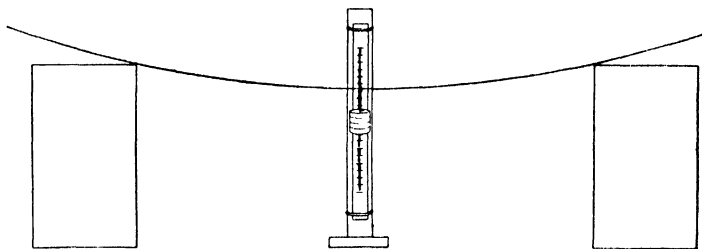

FIG. 28
**II Bending** Set up the mirror scale behind the middle of a thin wooden or steel rod supported as in Fig 28 and take again a set of readings like those in I, the index being now the point of a pin stuck with wax to the middle of the rod